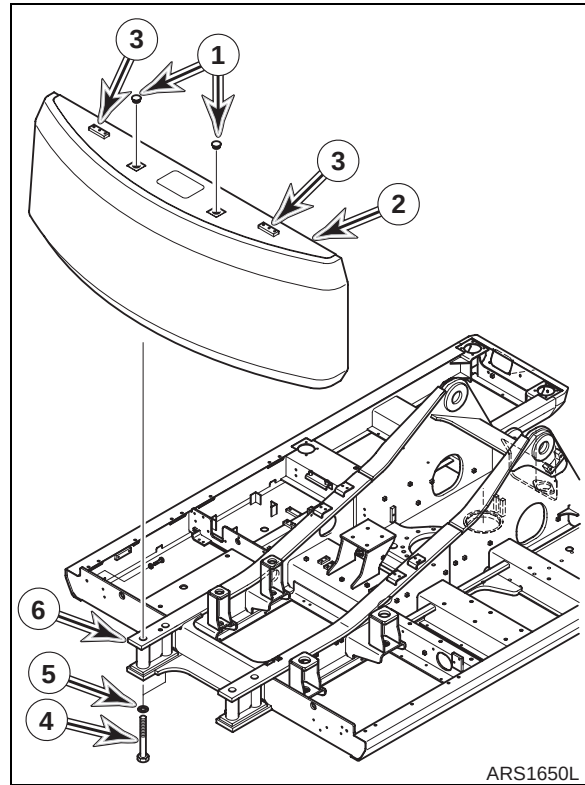

Figure 5
2. Using suitable lifting device capable of handling load, raise counterweight (2, Figure 5) into position just above support frame (6) leaving counterweight suspended. Verify that counterweight is level and even.
NOTE: Leave counterweight (2, Figure 5) suspended 3 mm (0.125") above support frame (6) until all four mounting bolts (4) are started in counterweight mounting holes.
3. Slide washers (5, Figure 5) onto bolts (4). Apply Loctite #242 to mounting bolt threads.
4. Install four bolts (4, Figure 5) with washers (5) into counterweight until washers contact support frame. Fully lower counterweight onto support frame and finish tightening bolts.
NOTE: Tighten bolts (4, Figure 5) to values shown in following table.
5. Remove lifting device and lifting eyes from counterweight lifting holes (3, Figure 5).
6. Install two caps (1, Figure 5) in lifting holes (3).